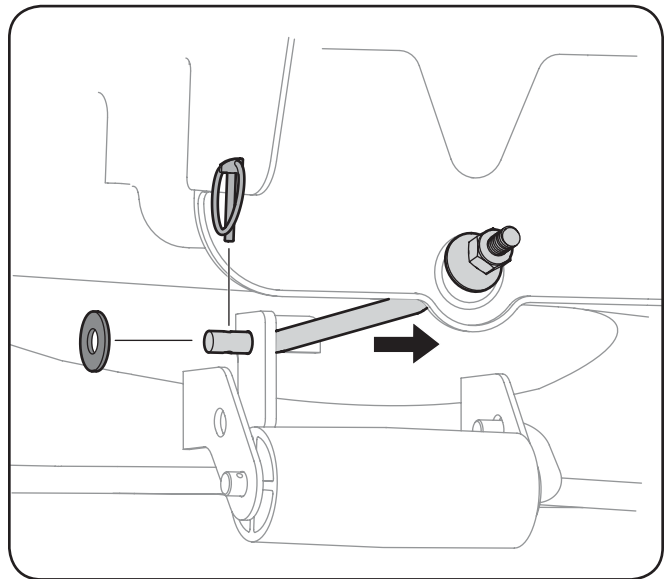

Figure 7-5
- Remove the cotter pin from the end of the stabilizer rod and slide the stabilizer out of the hanger bracket on the deck. See Fig. 7-5.